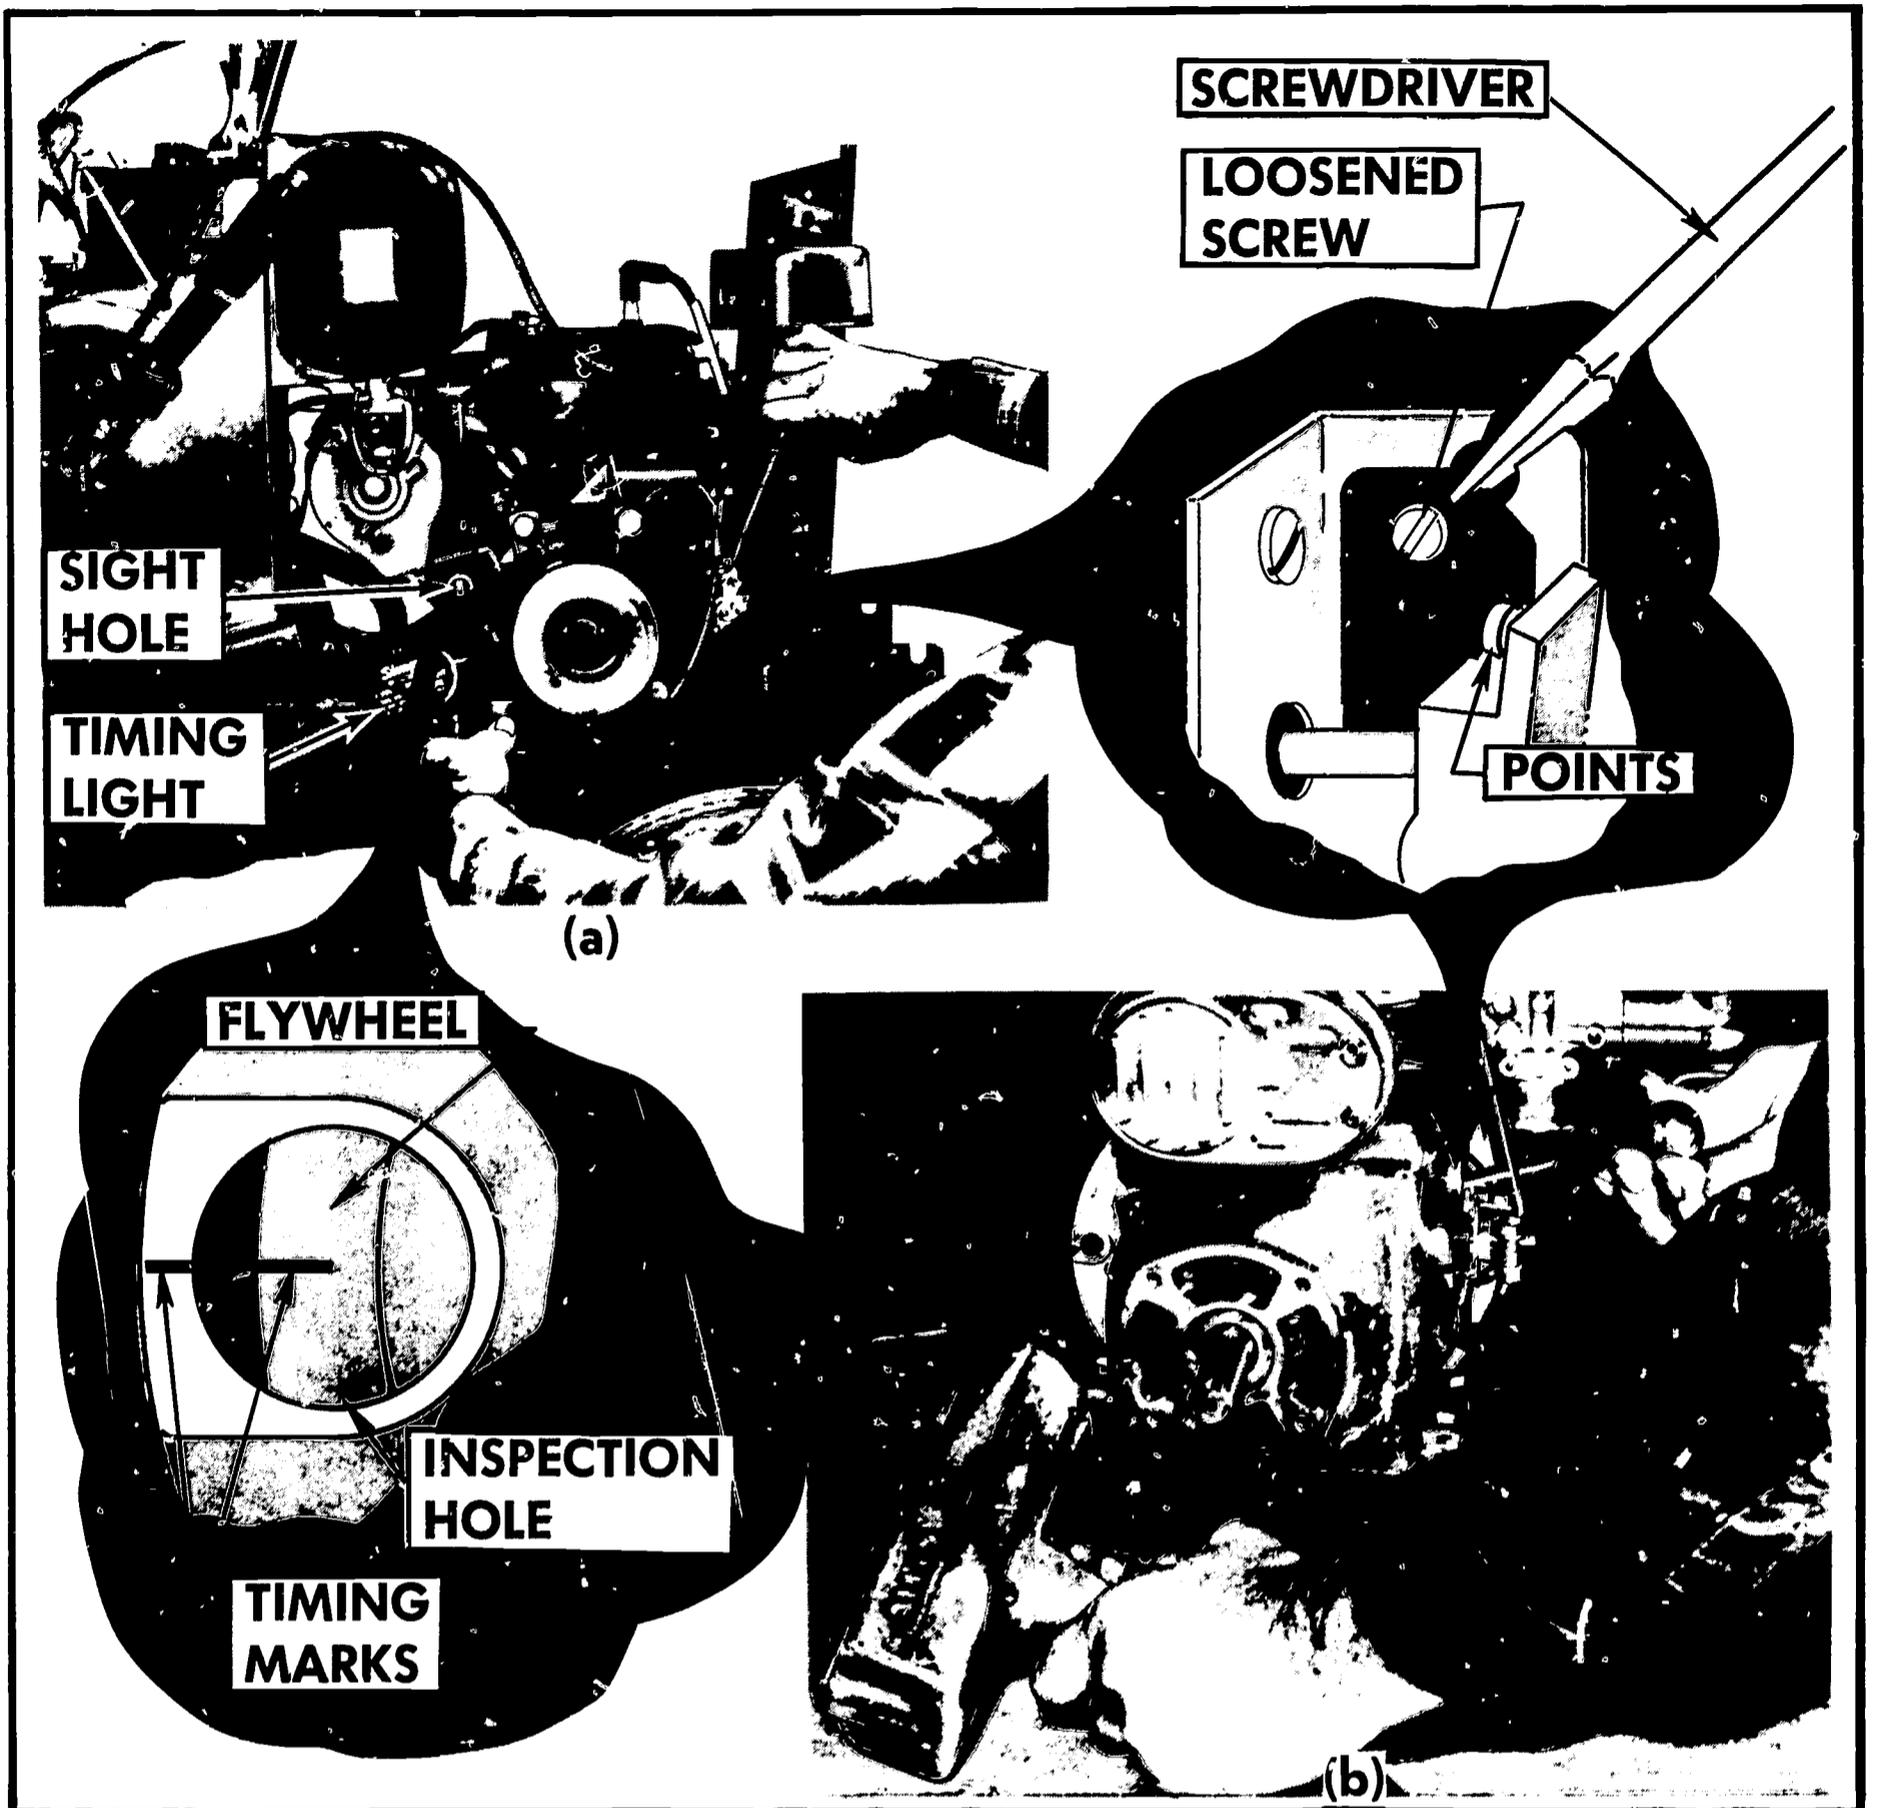

FIGURE 111. Checking the ignition timing with a neon timing light. (a) Engine installed on a tractor. (b) Engine mounted on a test stand. (b) 893 KOH
A neon timing light (Figure 111) is a specially designed neon light which flashes when the points open. With the flash directed to the timing marks you can tell if the points are opening at the proper time when the engine is running.
b. If you adjust the breaker-point timing with a **neon timing light** (Figure 111), proceed as follows: